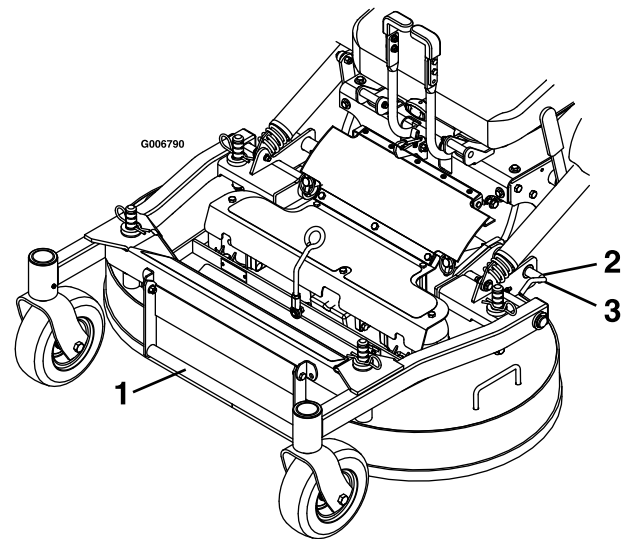

Figure 14
21. With the deck-locking pins pulled out in the unlock position, carefully lower the deck (Figure 14).